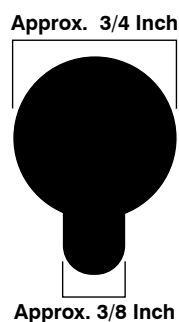

Figure C.3: Mounting Button Hole Specs
3. Refer to Figure C.3 below to make certain that the equipment rack includes appropriate mounting button holes and then attach the NBB unit to the rack by inserting the Mounting Buttons into the Mounting Button holes. When the NBB is in place, slide the unit downward to securely seat each Mounting Button in its corresponding hole.